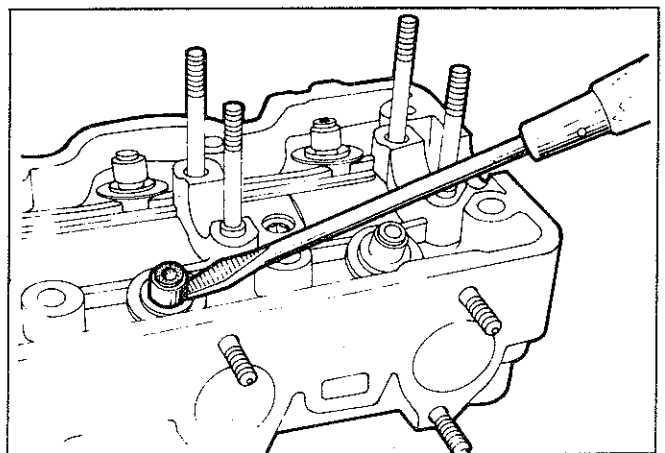

Fig. 22—Removing valve stem seals
- (1) Remove spark plugs.
- (2) Remove camshaft bearing cap nuts.
- (3) Holding the front and rear caps, remove the rocker arm shaft assemblies.
- (4) Disassemble the caps, rocker arms, springs, shafts and wave washers keeping them in the order of removal. Care should be taken not to lose the camshaft cap locating dowel pins.
- (5) Remove the camshaft.
- (6) Using a valve spring compressor, remove the collets, spring retainers, springs, spring seats and valves, keeping them in the order of removal.
- (7) With the aid of a screwdriver, remove the valve stem seals—Refer fig. 22.